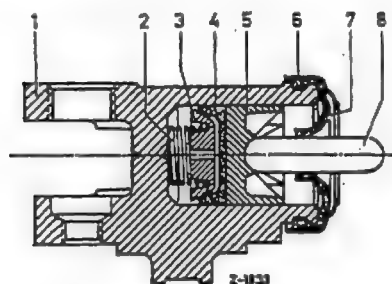

Fig. 42-5/4
7. Slide the stop spring (2), the cup expander (3), a new cup (4), and the piston (5) into the bore of the brake wheel cylinder (Fig. 42-5/4).
8. Press on the rubber boot (7) and the metal boot (6); then install the actuating pin (8) (see Fig. 42-5/4).